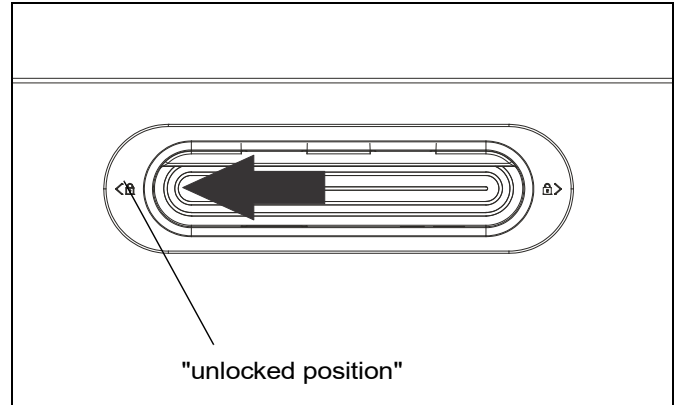

Figure 15
**NOTE:** Before installing any cover, make sure the handle is in the "unlocked" position (to the left) before installing to cart. (See Figure 15)